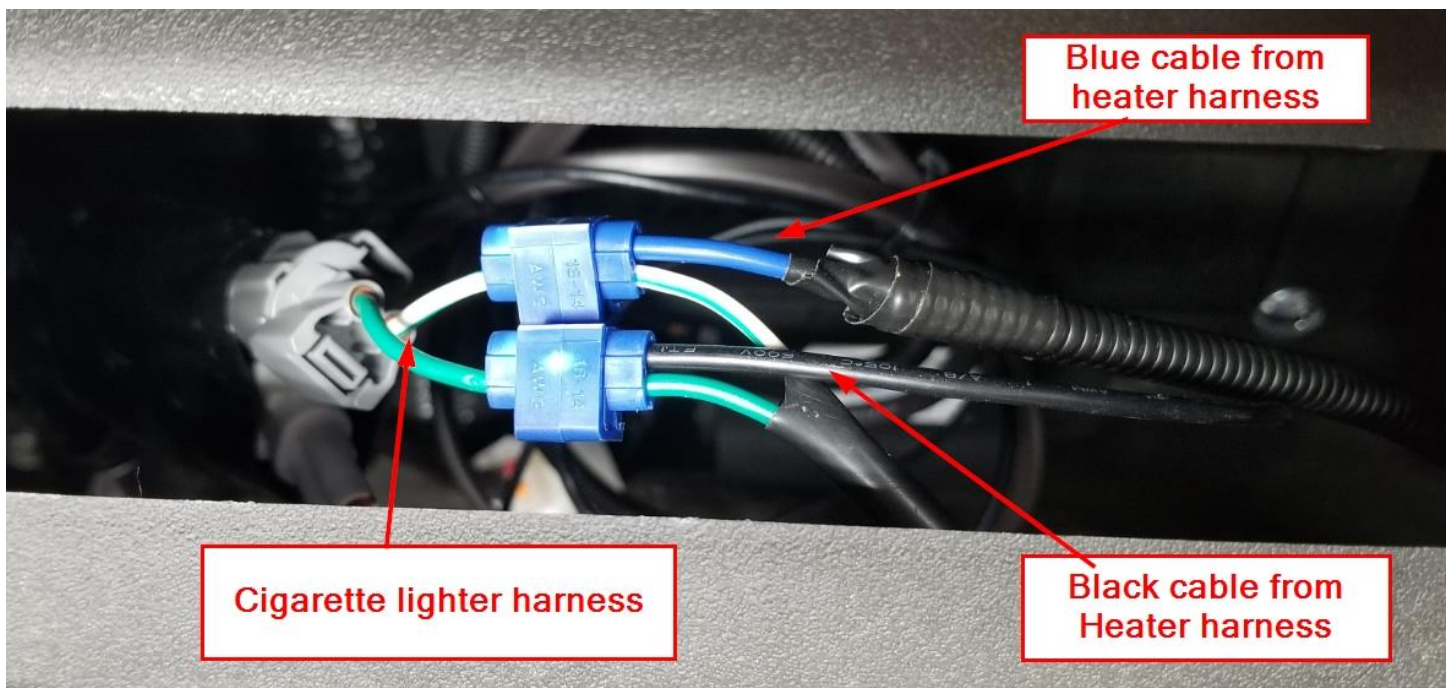

Figure 21
- d. Pull the panel that contains the cigarette lighter straight out to expose the cigarette light wiring. Strip back a small amount of the black electrical tape toward the rear of the cigarette lighter cable and use the insulation displacement crimps to attach the Blue wire to the White with Green Stripe wire. The Black wire connects to the Green with White Strip wire. Refer to Figure 21.